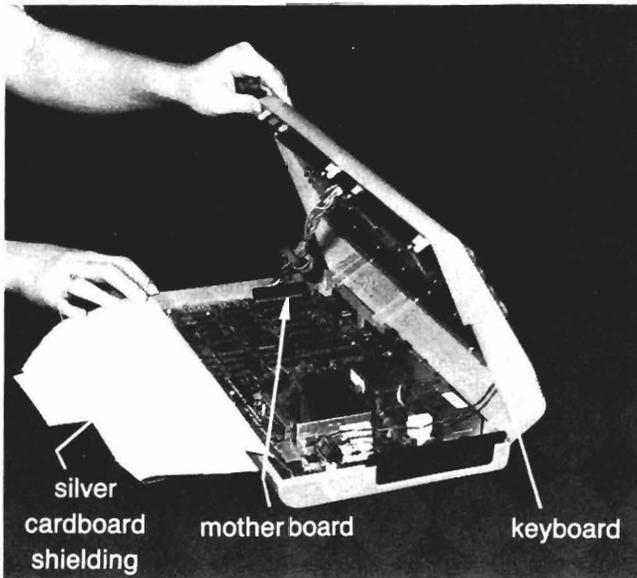

Fig. 3-8. Opening the system unit.
6. Carefully bend back the silver cardboard cover which shields the motherboard (Fig. 3-8).